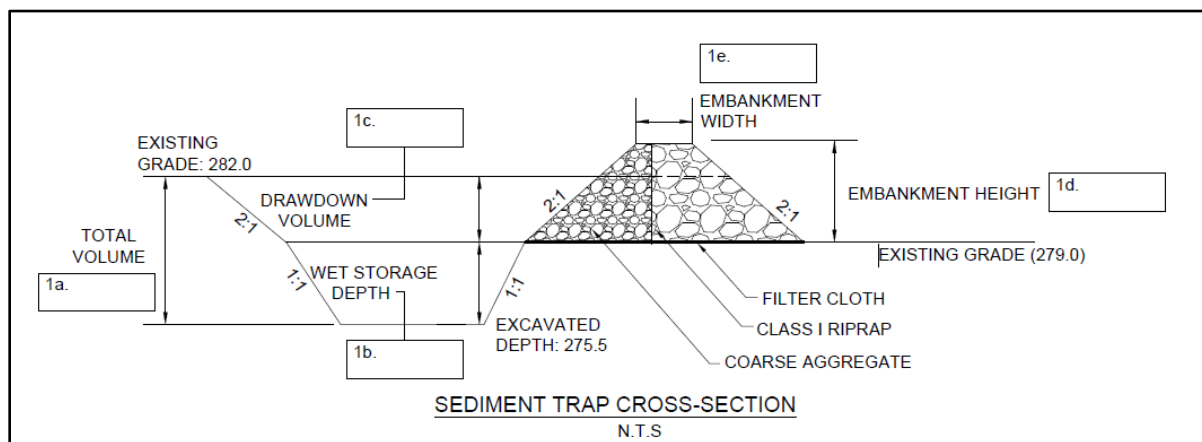
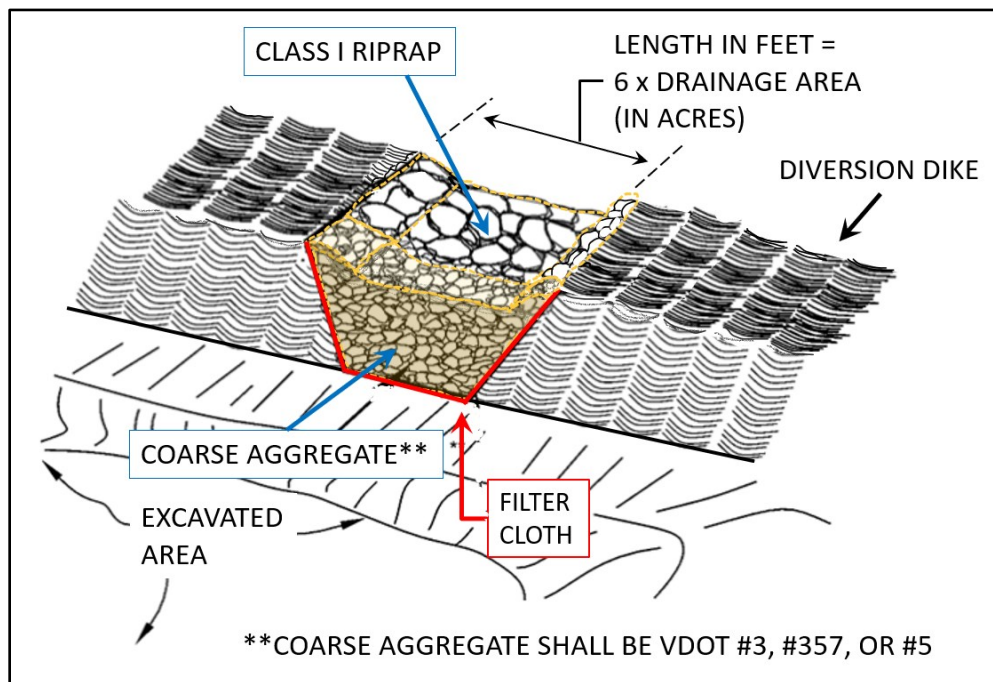

Figure 8-1. Sediment Trap Cross-Section
Figure 8-2. Sediment Trap Outlet (Perspective View)
1. Use Figure 8-1 and Figure 8-2 to help answer the following questions.
1d. What is the embankment height? Use the sediment trap cross-section shown in Figure 8-1.
1f. What should the length of the stone outlet be? Use Figure 8-2.